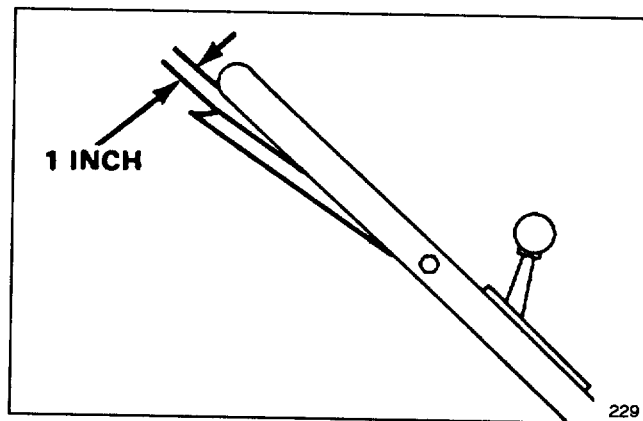

Figure 24
3. **CHECK ADJUSTMENT**—Slowly pull mower backward while control bar is gradually moved toward handle. Adjustment is correct when rear wheels stop turning and control bar is about 1-inch from handle (Fig. 24).